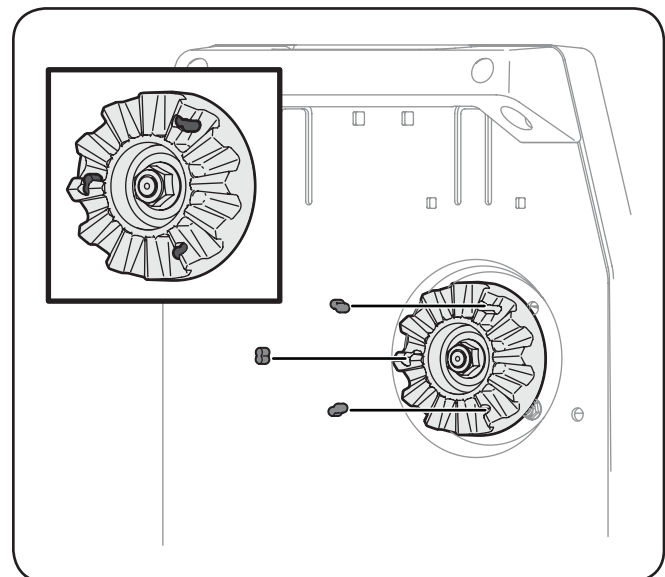

Figure 6-1
1. Gently pry each clutch bumper out of the dog clutch using a standard screw driver. See Figure 6-1.